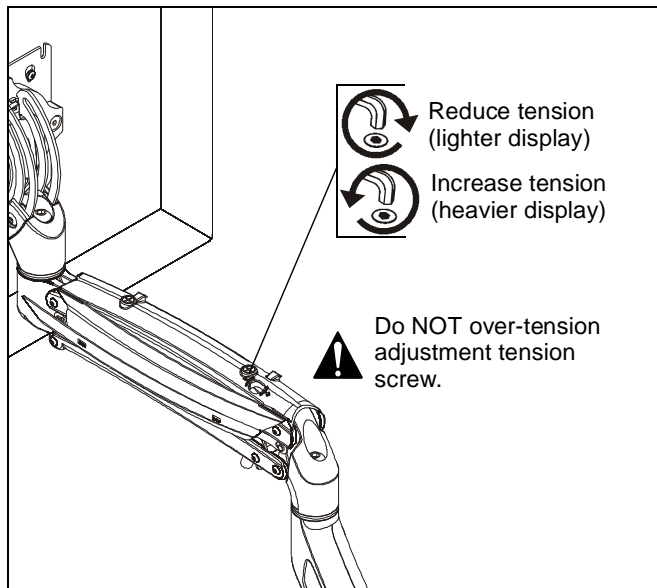

Figure 11
1. Tension may be adjusted with tension adjustment screw inside cable management cover and 1/8" hex key (M). (See Figure 11)